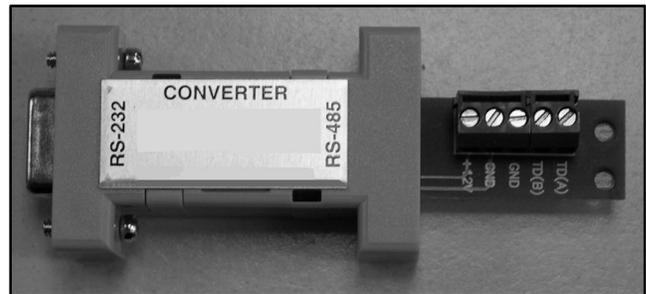

Figure 2 RS-232 to RS-485 Converter
3.2.1 Use Belden #9841 or equivalent shielded twisted-pair cable to connect the transfer switches as shown on the diagram. Install the RS-232 to RS-485 converter as shown on the diagram. Figure 2 shows the converter.